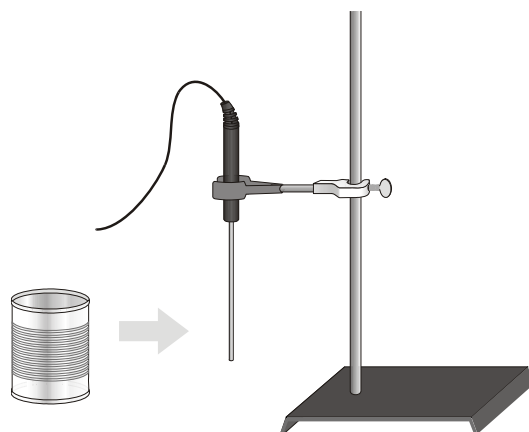

Figure 1
1. Use a utility clamp to suspend the Temperature Probe on a ring stand as shown in Figure 1. The end of the Temperature Probe should be about 1 cm above the tabletop.